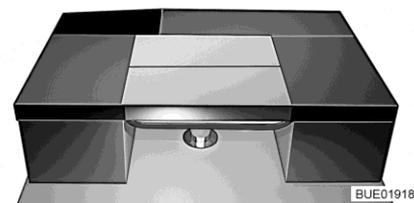

Fig. 160 After conversion
- Place the back cushion of the bench horizontally onto the table (see Fig. 160).